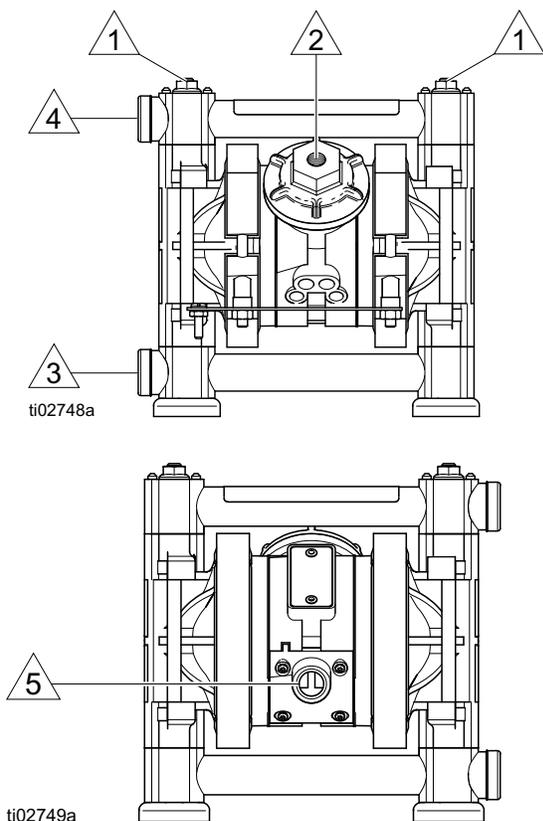

FIG. 2: Fluid Input and Output Ports (acetal pump shown)
- Use electrically conductive, flexible fluid hoses (N). The pump fluid outlet is 3/8 npt(f). See FIG. 2. Screw the fluid fitting into the pump outlet snugly.
- Install a fluid regulator (M) at the pump fluid outlet to control fluid pressure, if desired (see **Typical Installations** on page 12). See **Air Line** on page 10, step 1a, for another method of controlling pressure.
- Install a fluid drain valve (J) near the fluid outlet.
The pump is shipped with the fluid inlet and outlet ports facing the same direction. See FIG. 2. If desired, the direction of one or both ports can be changed. Remove the manifold(s) from the pump as explained in **Ball Check Valves** on page 22 steps 1, 2, and 4. Reattach with the port facing the desired direction. See **Torque Sequence** on page 32. **Do not over-torque.**